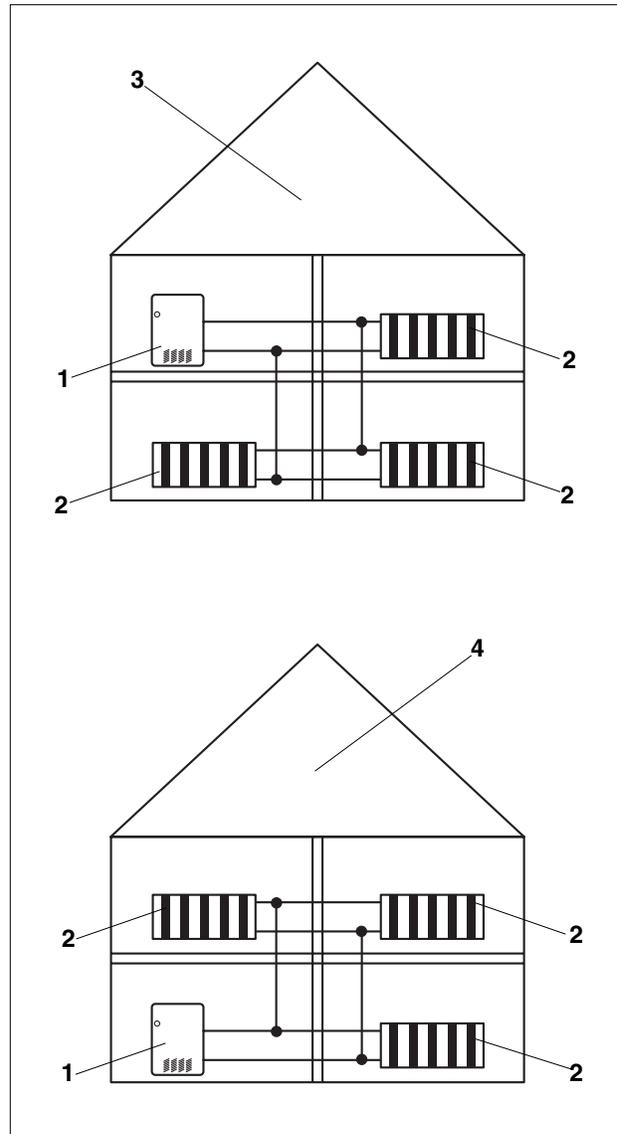

Fig. 5 Low water cut off installation
- If this boiler is installed above radiation level it must be provided with a low water cut-off device either as a part of the boiler or at the time of installation (see Fig. 5).